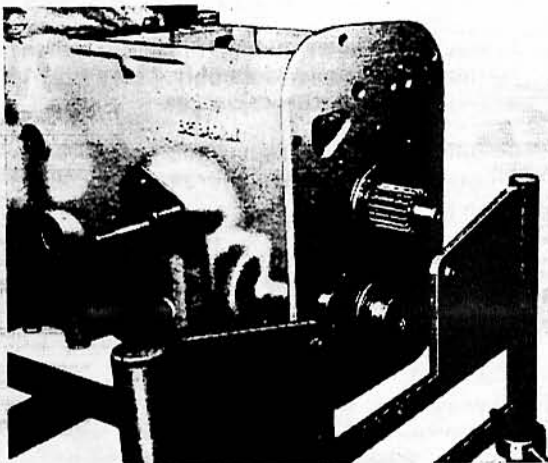

FIG. 9
4. When the epicyclic unit is stripped down, examine two thrust washers. Signs of contact with epicyclic carrier unit pinions will be evident and thrust washers should be reversed on reassembly, but should be renewed if the thrust washers are scored. Scoring may indicate that the pinions are not correctly located and, in such cases, the carrier unit should be renewed. Fig. 9 shows the transmission case stand attached and the epicyclic reduction unit removed.